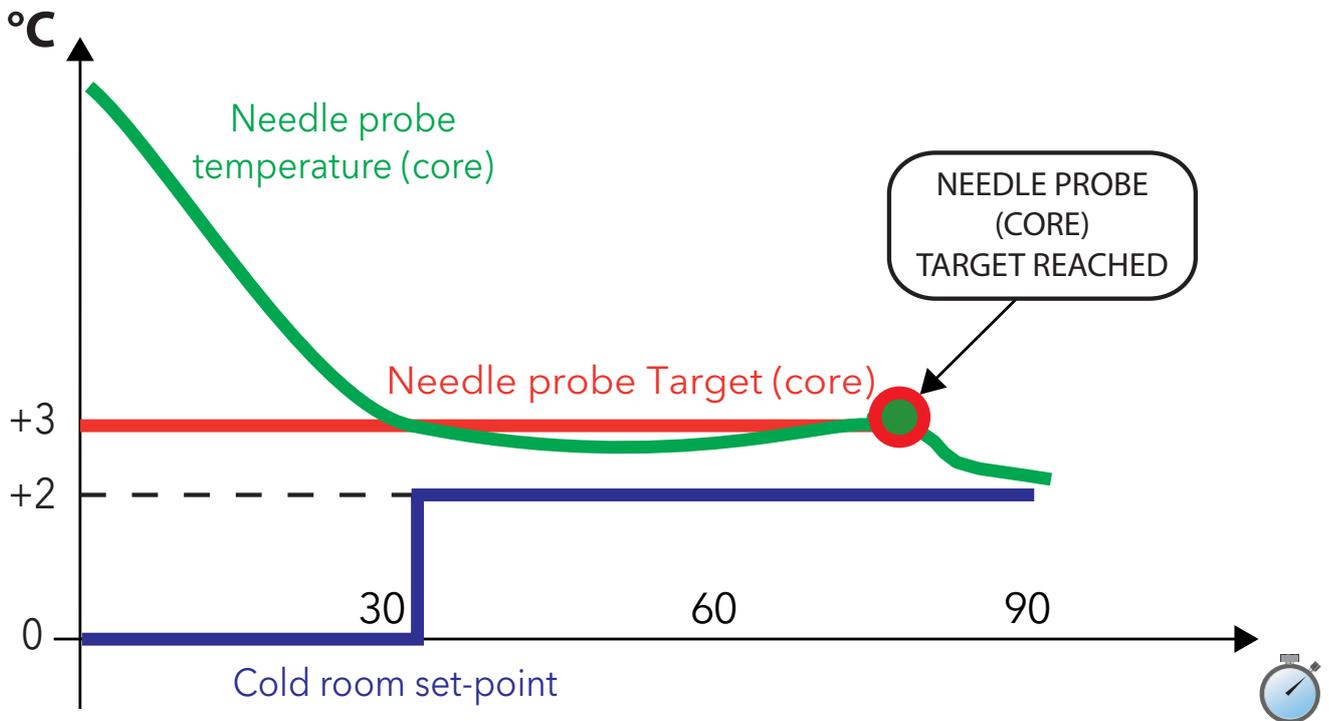

Fig. 13. POSITIVE program with SOFT blast chill mode
- Soft blast chill mode (**Fig. 13 on page 33**);
NOTE: The numeric values shown in **Fig. 13 on page 33** are the default values.